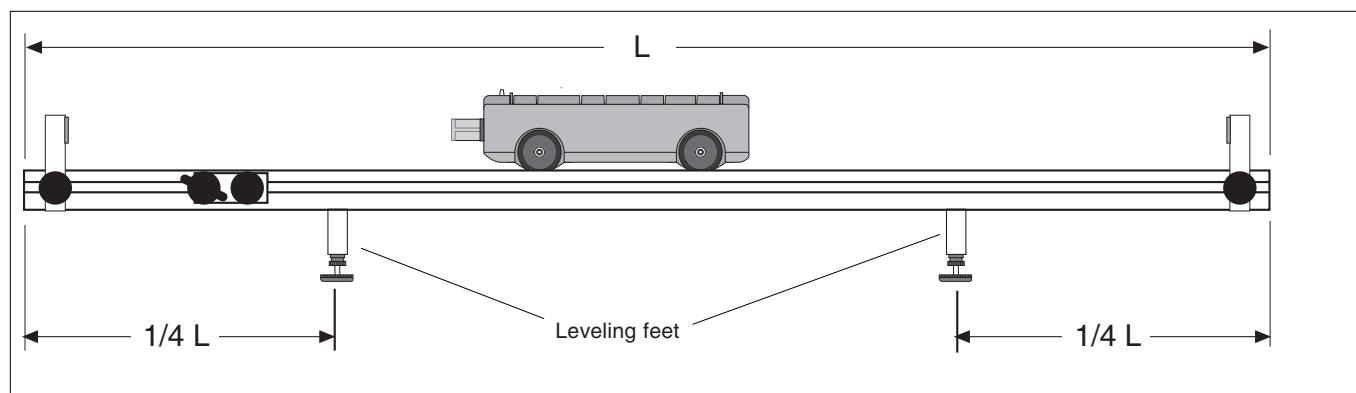

Figure 4: Optimum Position of Leveling Feet
- Align the square nut within the groove on the desired side of the Dynamics Track. Slide the leveling foot down the track to the desired position. To minimize the bow in the track, place a leveling foot about $1/4$ of the track length from each end of the track (see Figure 4).